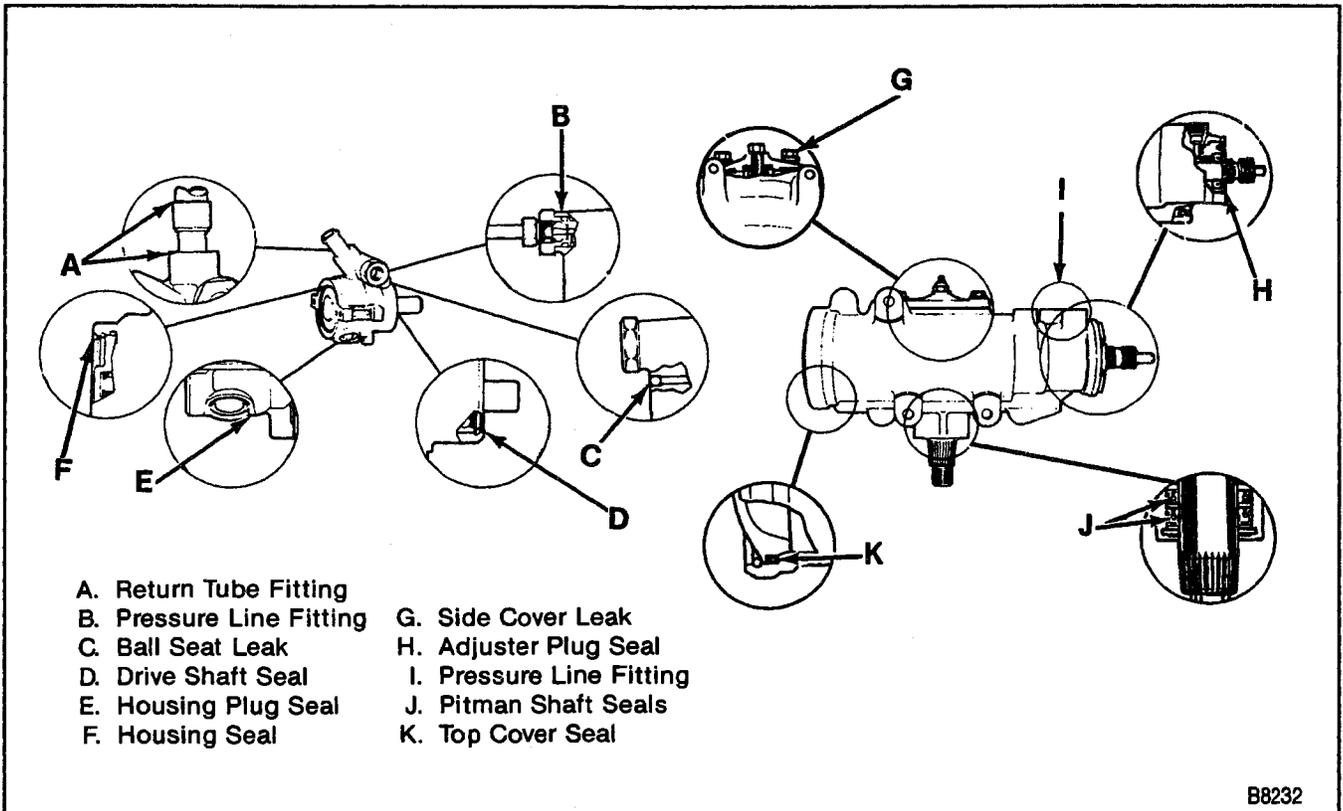

Figure 2—Fluid Leak Locations
4. Locate the exact area of the leak (Figure 2).